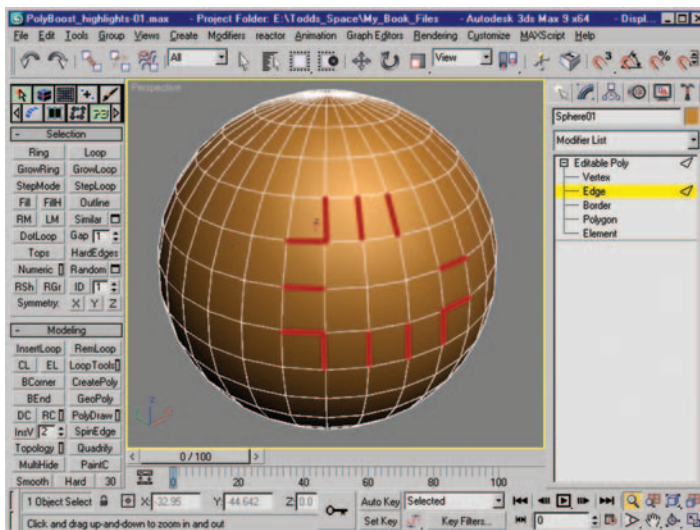

Figure 12.4 Edge selection.
- At the Edge subobject level, select the edges seen in Figure 12.4.